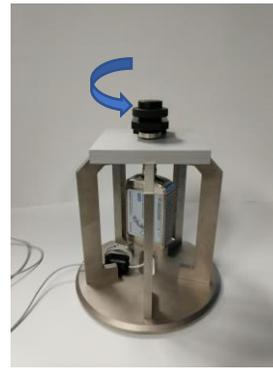
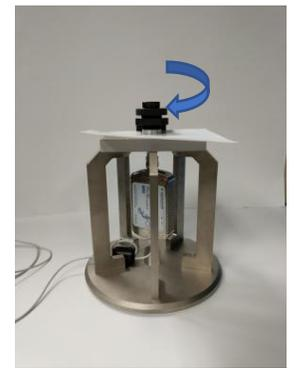

Figure 9. Raise Electrode
Figure 10. Lower Electrode
3. Turn the top knob counter-clockwise to raise the top electrode of the Epsilon™ (Figure 9). Place the Teflon Calibration Sample between the two electrodes. Turn the top knob clockwise to lower the top electrode until lightly snug (Figure 10). Then use the torque-limiting knob by applying downward pressure while turning clockwise to lower the top electrode to its final force.